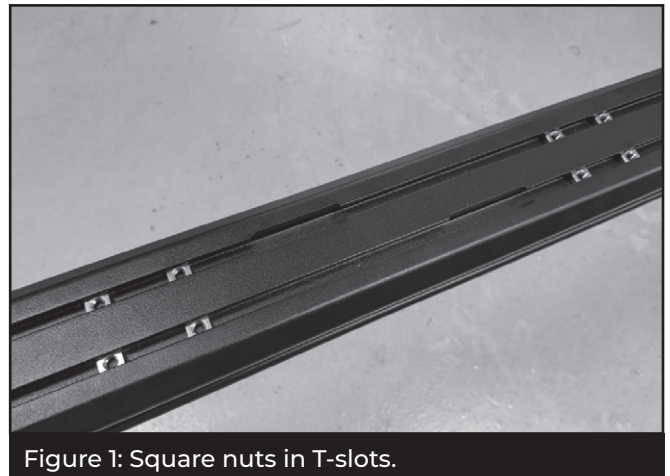

Figure 1: Square nuts in T-slots.
- 2** Insert the eight square nuts into the hoop using the access cut into the T-slots. **(Figure 1)**